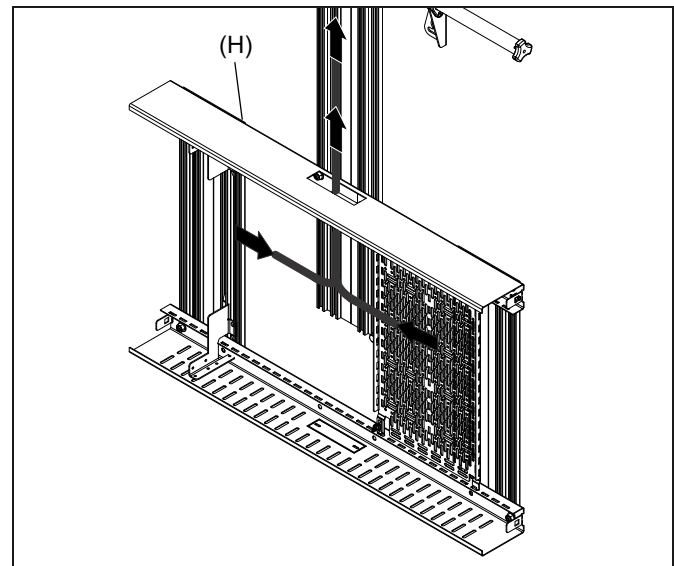

Figure 19
1. Route cables up through the recess at the top of the storage box (H). (See Figure 19)